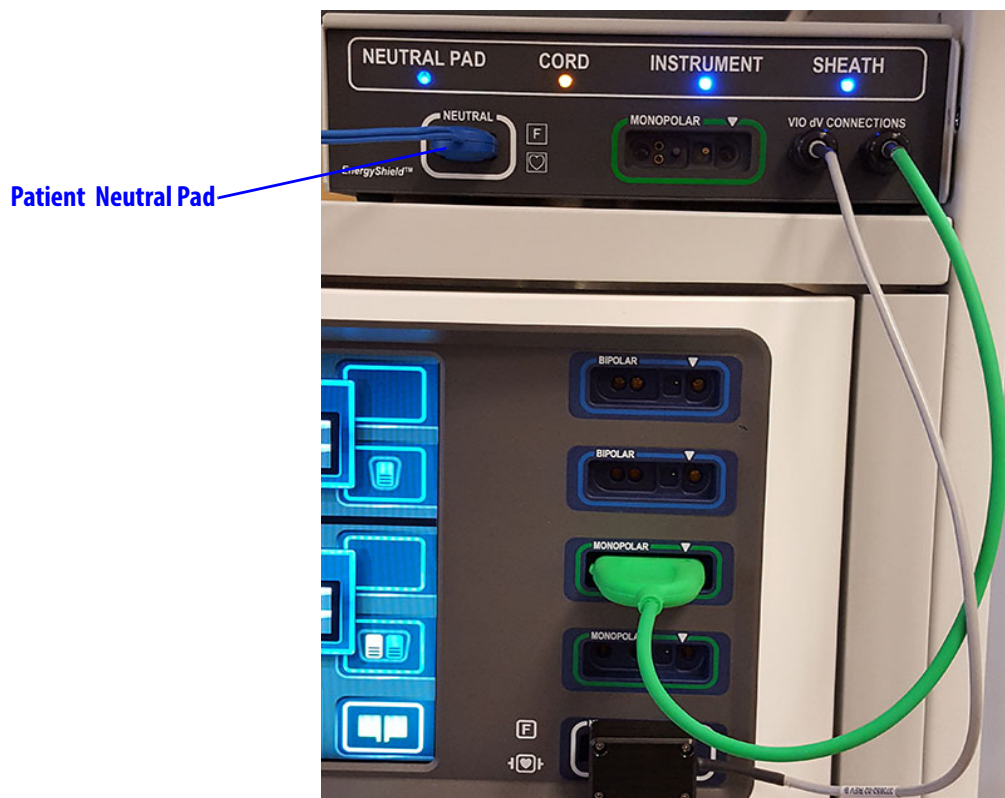

Figure 8.11 Patient pad plugged into EnergyShield Monitor
- Connect the patient neutral pad plug into the neutral receptacle on the EnergyShield Monitor (Figure 8.11). Verify that the Neutral Pad LED illuminates blue and the patient neutral pad icon on the VIO dV illuminates green.